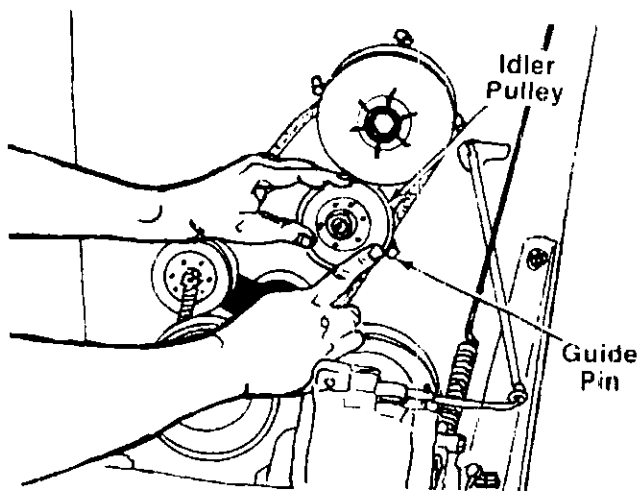

FIGURE 29.
13. When sliding the idler pulley on the idler bracket, be certain the belt is between the pulley and guide pin. See figure 29.